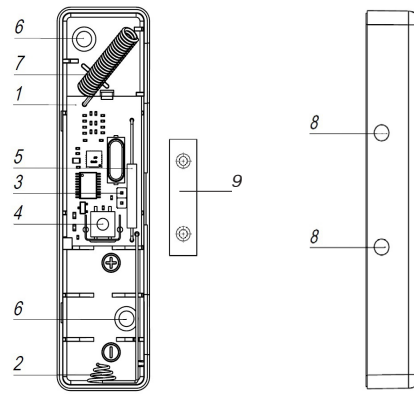

Figure 1 – «Ladoga MK-RK» ver. 4
8.1 Arrange the magnet at the side where built-in magnetic contact is located, as it is shown in Figure 1.